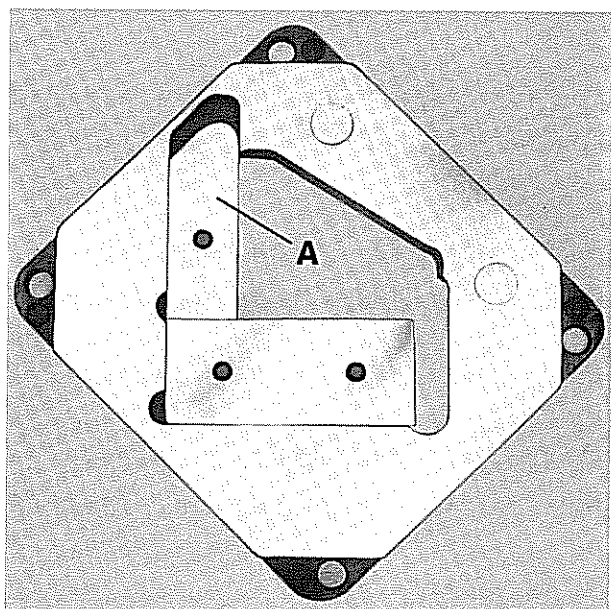

Fig. 35: PMG section blade, stationary
a) Disassembling the section blades according to instructions given under item 1.
b) For disassembling the sliding blades "A" and "B" (see Fig. 35 and 36).
e) Install the section blades acc. to the instruction, item 2.